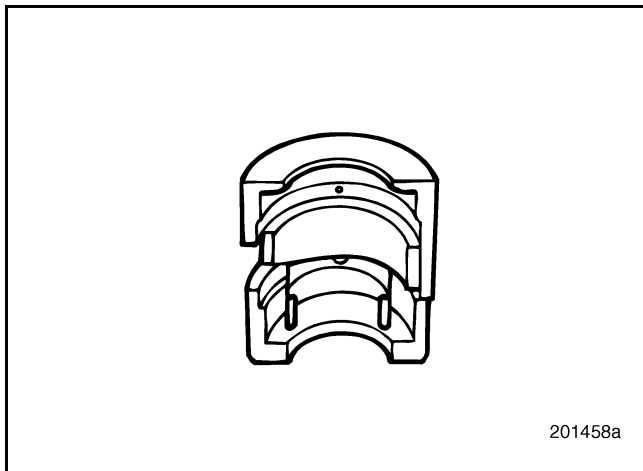

Figure 178 — Camshaft Installation Guide
- Install the camshaft removal/installation tool J 41682 (Figure 178) in position on the rear segment of the camshaft, securing it to the shaft with the clip.